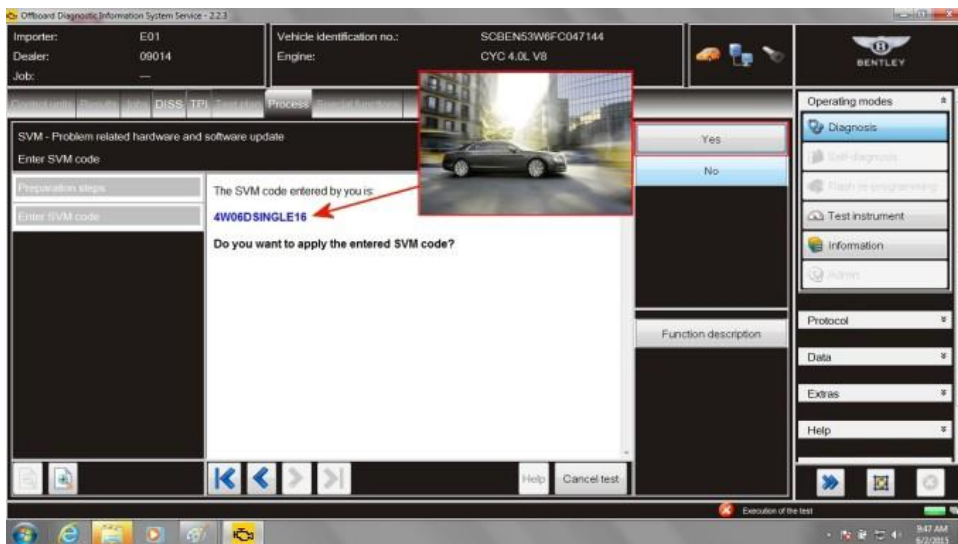

Figure 9
19. select Done at request to first load parameter settings (see Figure 9)